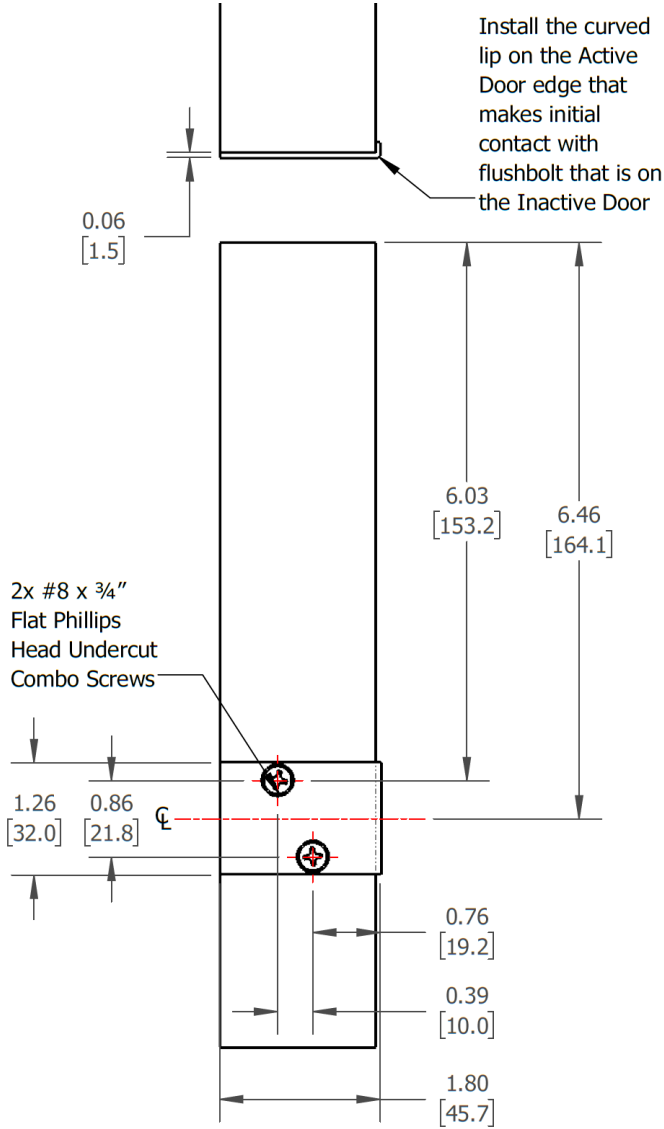

Figure 3: Active Door Strike
8. Using Figure 3 and 2ea of the #8 x 3/4" Flat Phillips Head Undercut Combo Screws, install the Active Door Strike